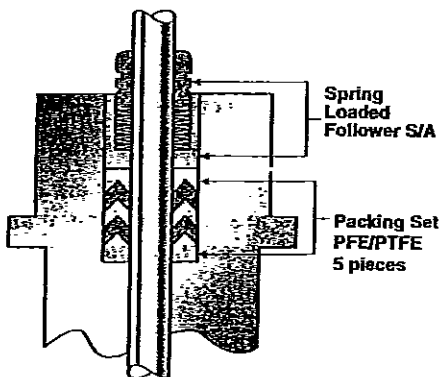

Figure 7
7.6.3 (Low Emission) PACKING™ (Optional) (Figure 7)
Note: Bonnets that have a leak detection hole or lube hole are unacceptable for use with the preferred packing arrangement shown in Figure 7.